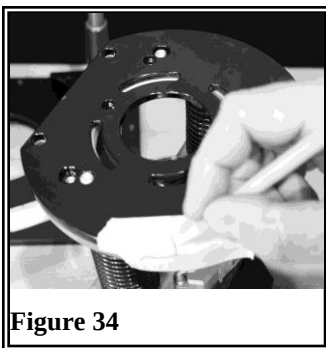

Figure 34
2. Turn the router upside down and transfer this mark to the router sub base. (Figure 34)